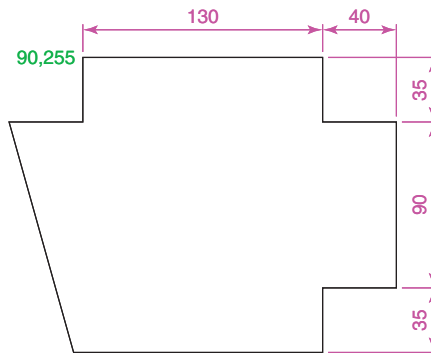

Fig. 2.17 First example – **Erase**. An incorrect outline
1. With **Line** construct the outline Fig. 2.17.